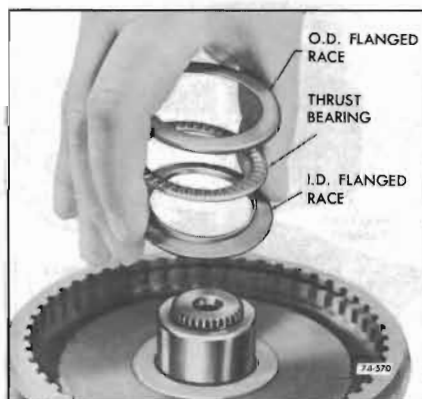

Figure 74-570
11. Remove output shaft to rear internal gear thrust bearing and two (2) races. See Figure 74-570.